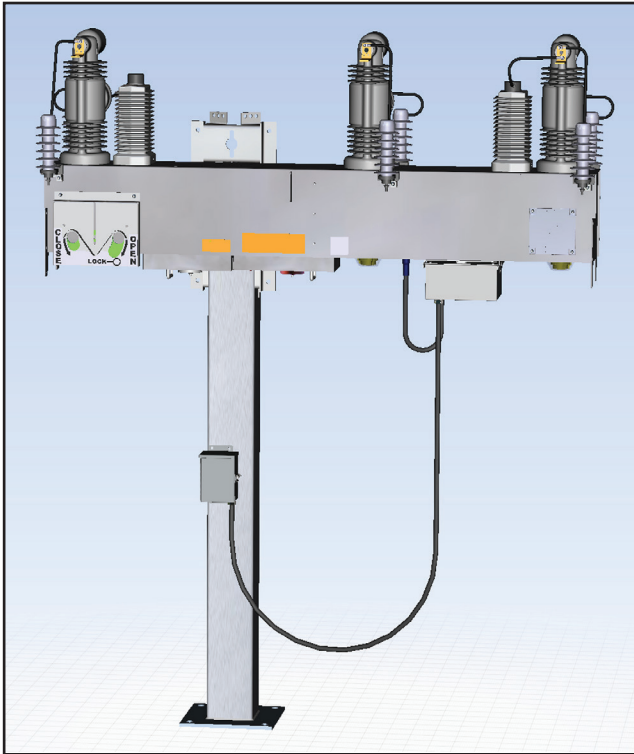
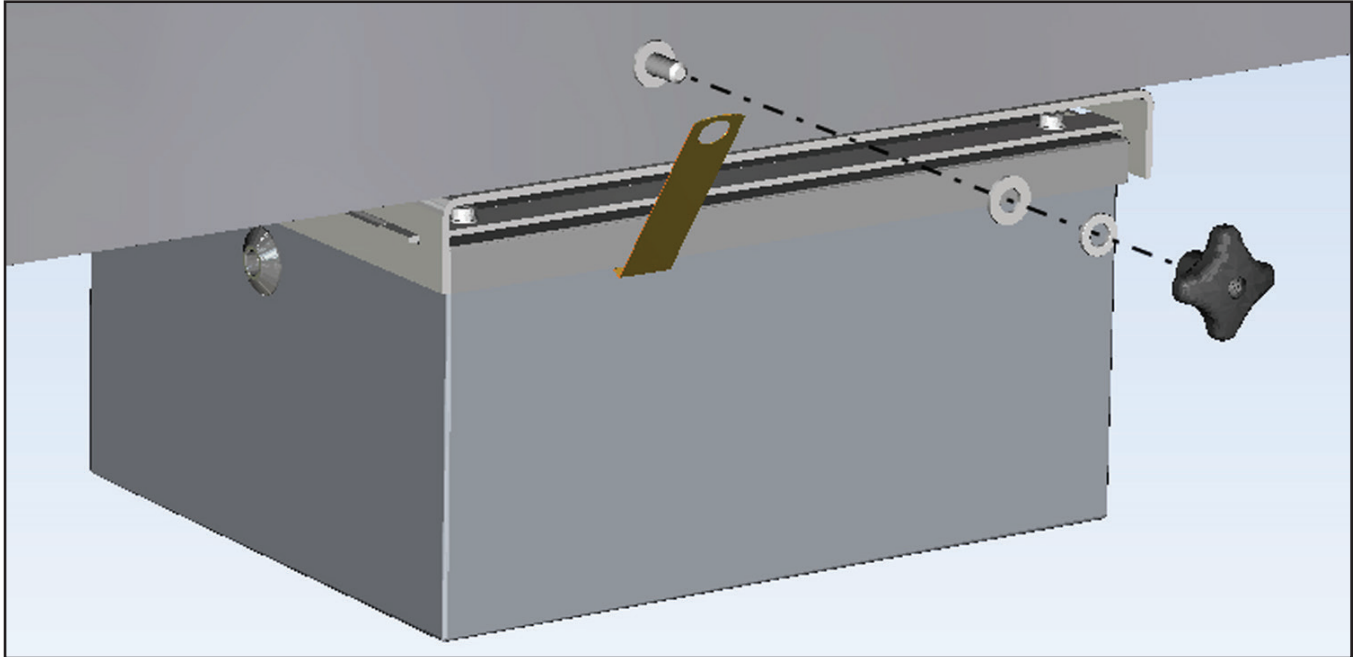

Figure 1. The external power supply installed on a pedestal-mounted IntelliRupter fault interrupter.
Figure 3. Grounding the external power supply to the IntelliRupter fault interrupter base.
The external power supply mounting bracket is bolted to the bottom of the IntelliRupter fault interrupter crossarm base, and the junction box is mounted on the IntelliRupter fault interrupter pedestal. The power supply slides into the mounting bracket, and must be grounded to the IntelliRupter fault interrupter base. See Figure 1 and Figure 3 on page 9.
STEP 3. Attach the flexible ground strap with the ground nut hardware. See Figures 3 and 4 on page 9.